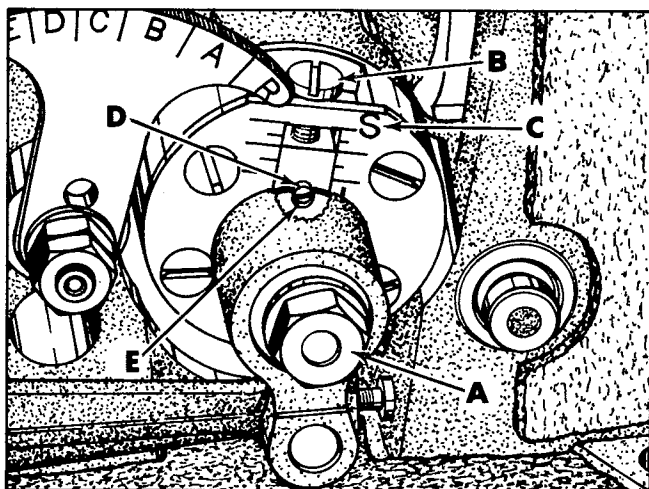

Fig. 11
Set the stitch to required length. This is accomplished by loosening locknut (A, Fig. 11) 1/2 turn (it has a left hand thread) on the end of the stitch regulating stud and turning stitch adjusting screw (B) located under the left end of the cloth plate, in the head of the main shaft (C), which is marked with "L" and "S". Turning the screw clockwise shortens the stitch (moves stitch regulating stud toward the "S") and turning it in a counterclockwise direction lengthens the stitch (moves stitch regulating stud toward the "L"). Retighten locknut securely.